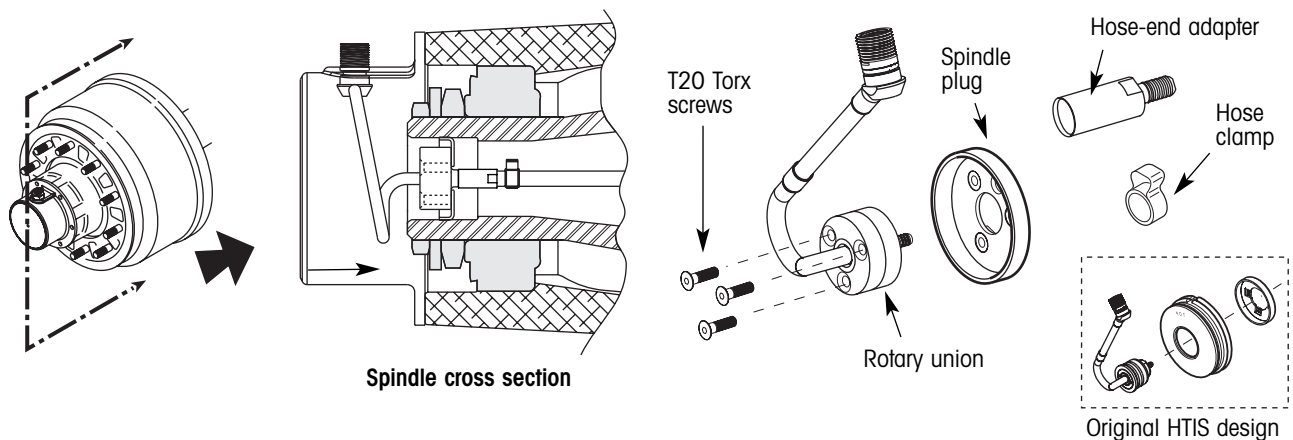

Figure 1. Primary items in the rotary union replacement kit
Hendrickson offers several variations of the rotary union replacement kit. All rotary union replacement kits contain a rotary union, a hose-end adapter, hose clamps and T20 Torx machine screws (figure 1). However, kits are available without a spindle plug, with an HN spindle plug and with both HP and HUS® spindle plugs. Because of this variation, every step in this procedure may not need to be followed.
**If replacing the original HTIS™ design,** remove and discard the rubber mounting cylinder, rotary union, retaining ring and hose clamp (see figure 1) from the wheel-end assembly and continue with step 5. The rubber mounting cylinder can be pulled out of the spindle bore, and the retaining ring can be removed from the spindle bore with a slide hammer or pry bar.